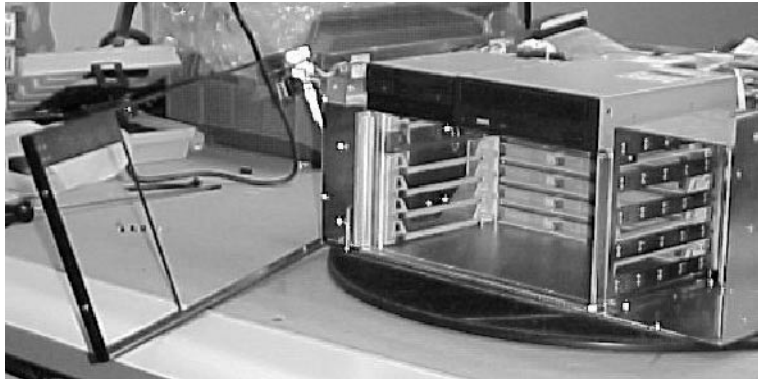

Figure 5-4. C0406A with Front Panel Bezel Removed
- 6 Remove the C0406A front panel bezel. There are three screws on the top surface, two on each end, and two on the bottom that hold this part in place. Figure 5-4 shows this bezel removed and swung aside.